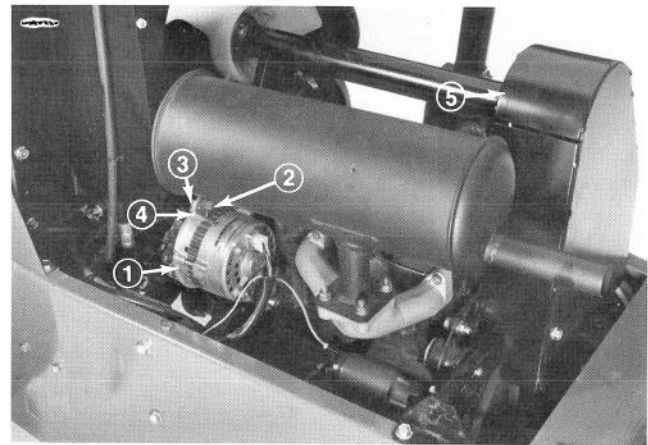

Figure 48
3. Loosen bolt securing brace to engine and bolt securing alternator to brace (Fig. 48).
4. Insert pry bar between alternator and engine and pry out on alternator (Fig. 48).
2. Remove capscrews (5) securing fan belt guard and remove guard (Fig. 48).
5. Install fan belt guard and secure with capscrews (Fig. 48). Close and latch hood.
4. Install fan belt guard and secure with capscrews (Fig. 48). Close and latch hood.